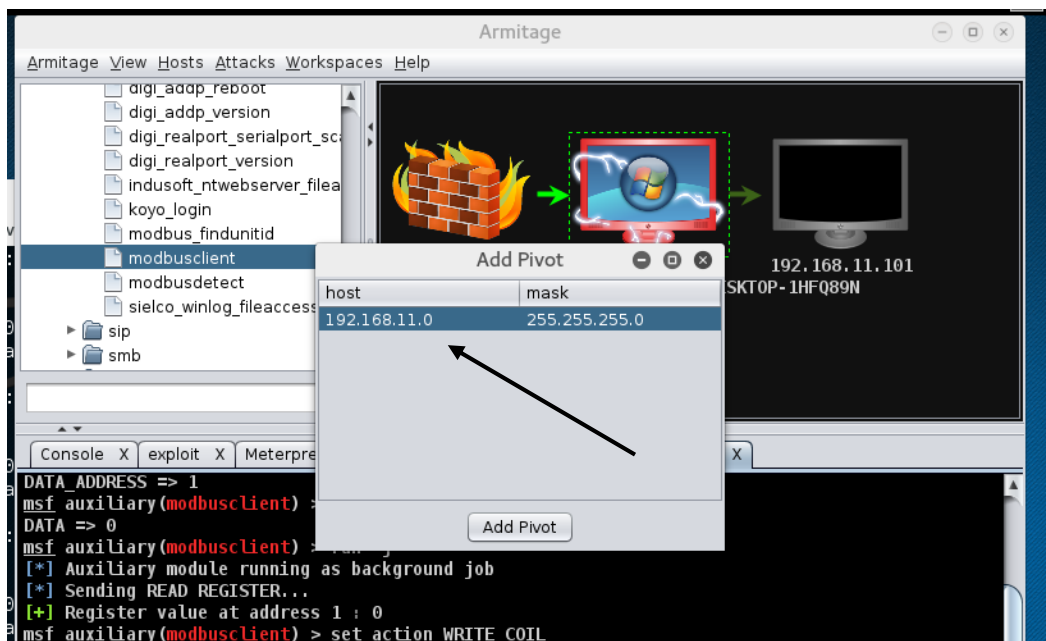

Fig 20
4. The Add Pivot table should contain the subnet for which the PLC and HMI programming device is connected. Fig 20